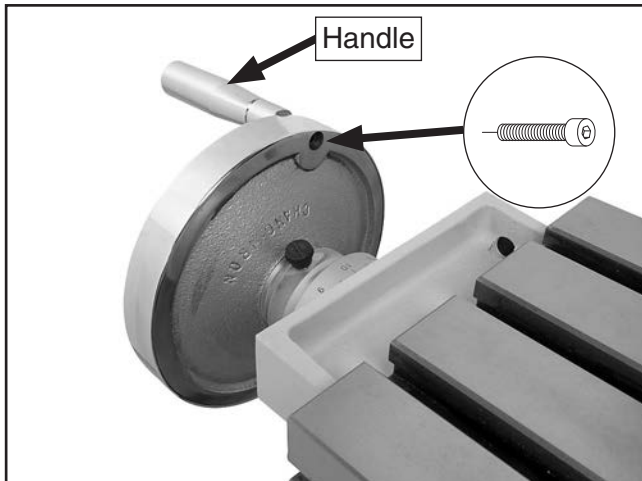

Figure 9. Handle attached to handwheel.
1. Secure the three handles to the handwheels with the M6-1 x 25 cap screws, as shown in **Figure 9**.